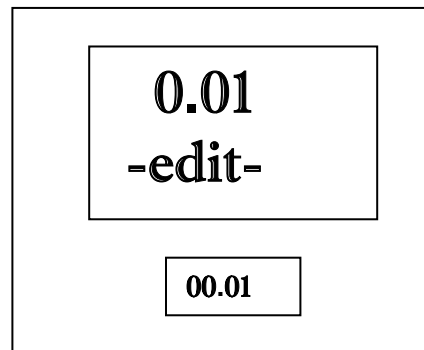

Figure 12
1. Use the 0 through 6 buttons on the keypad to enter a new selection. The display will show the option number as well as the decimal placements in the money and PPV displays. See Figure 12.